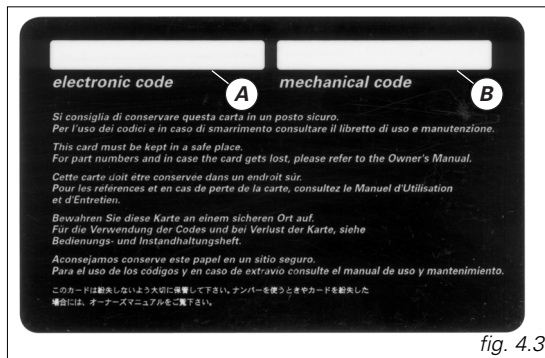

fig. 4.3
A) (fig. 4.3) the electronic code to be used to start the engine in the event of an emergency;
B) (fig. 4.3) the part no. code for the keys to be reported to the DUCATI Service network when you are ordering any duplicate keys.